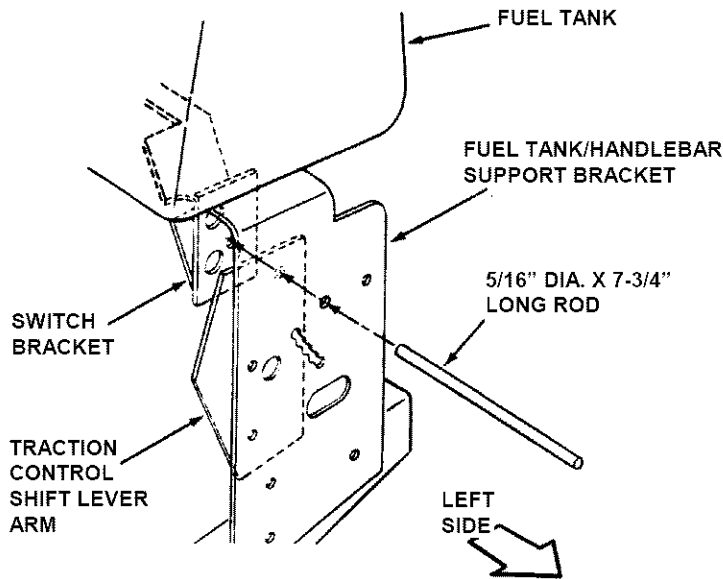

FIGURE 3.9
STEP 3: Insert rod (5/16" diameter x 7 3/4" long) through alignment holes in the left and right traction control shift lever arms and the switch bracket. The rod should pass through both the left and right traction control shift lever arms. This step is important as it places the shift lever arms in Neutral and aligns them with the Neutral interlock switches located in the switch bracket. See Figure 3.9.